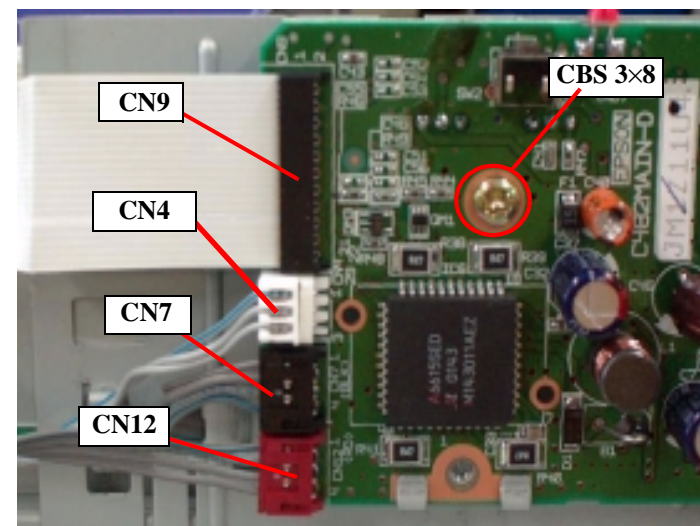

Figure 2-27. Disconnecting the connectors
6. Take out the 1 screw. (Refer to Figure 2-27.)